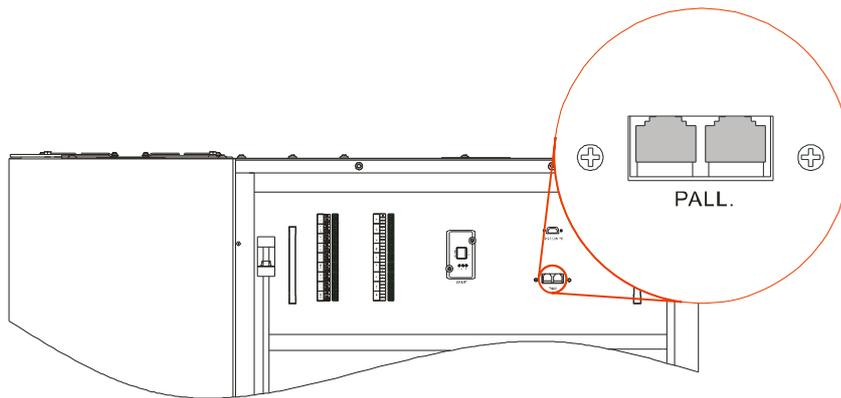

Figure3-49 Parallel port position
- Step 6 Connect the parallel port (as shown in Figure3-49) of each UPS in parallel system by parallel wires (shielded communication wire), and fasten the corresponding screws. (Here take the BM33400 as an example.)